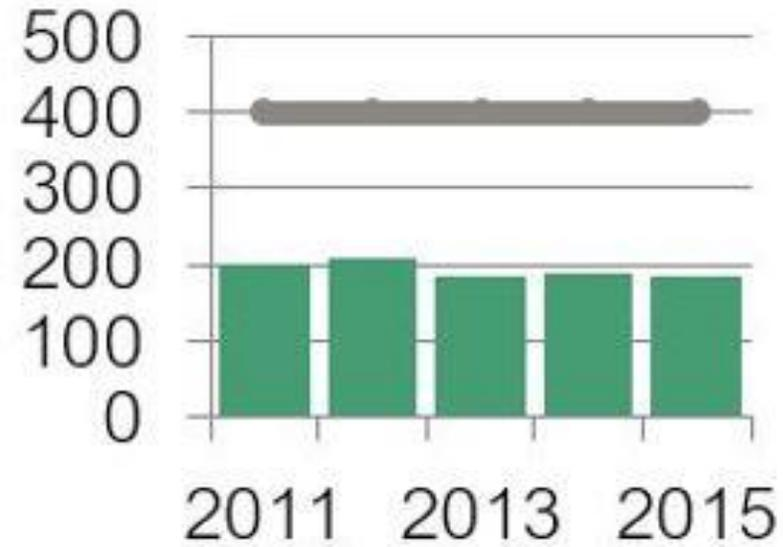

Fig 3. Dairy 20-20 Average **somatic cell count** (000s) per farm, against NZ Dairy maximum over 5 seasons (2010-2015)
- Somatic cell count across 'Dairy 20-20' herds also decreased (*Fig 3*)